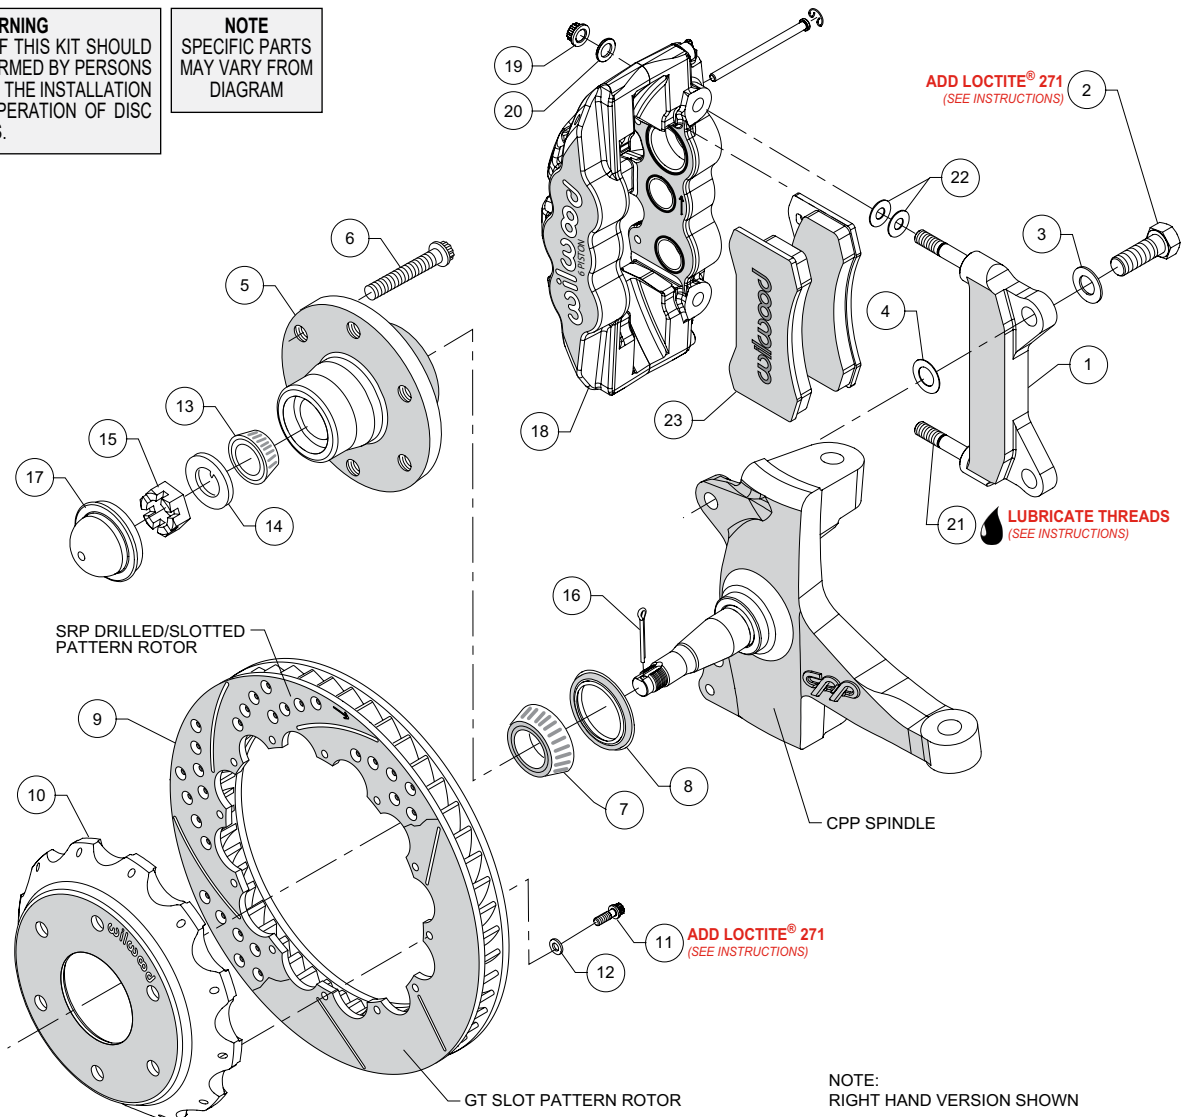
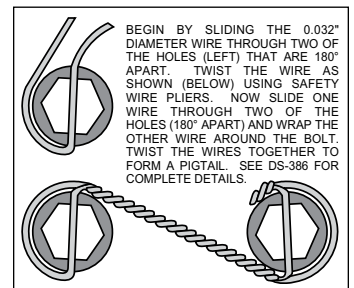

Figure 1. Typical Installation Configuration
Figure 3. Safety Wire Diagram
NOTE: Numbers in parenthesis refer to the parts list and Figure 1 on the preceding pages.
- The caliper mount bracket (1) should initially be installed with clean, dry threads on the mounting bolts. Orient the bracket, as shown in Figure 1, and Photo 1, and install using bolt (2) and washer (3). Initially place one .024" thick shim (4) on each bolt between the bracket and upright, Figure 1. Temporarily tighten the mounting bolts. **NOTE:** *The bracket must fit squarely against the mount bosses on the upright.* Inspect for interference from casting irregularities, machining ridges, burrs, etc. Later, after the caliper alignment has been checked, the mount bolts will be secured using red *Loctite*® 271.
- Install wheel studs (6) into the hub (5), Photo 2. Torque to 77 ft-lb.
- Pack the large inner bearing cone (7) with high temperature disc brake bearing grease (available from your local auto parts store) and install into the backside of the hub (5), Photo 3.
- Install the grease seal (8) by pressing into the backside of the hub (5), flush with the end of the hub, Photo 4.
- Orient the rotor (9) and the hat (10) as shown in Figure 1 and Photo 5. Attach rotor to hat using bolts (11) and washers (12). Apply red *Loctite*® 271 to the bolt threads and torque to 155 **in-lb** using a criss-cross pattern. For an added measure of security, the bolts may be safety wired using standard 0.032 inch diameter stainless steel safety wire as shown in Figure 3. Refer to Wilwood's data sheet DS-386 (available at www.wilwood.com/Pdf/DataSheets/ds386.pdf) for complete safety wire installation instructions.
- Pack the small outer bearing cone (13) with high temperature disc brake bearing grease and install into hub (5). Slide the hub assembly onto the spindle. Secure using spindle washer (14) and spindle nut (15), Photo 6. Adjust bearings per OEM specifications. Install a new cotter pin (16).
- Press the dust cap (17) into the hub (5). **NOTE:** *Do not hammer center of cap. Install using outer flange only.*
•Slide the hat/rotor assembly (10/9) onto the hub (5), Photo 7. **NOTE:** The hat must fit flush against the hub face or excessive rotor run out may result. Install three lug nuts (finger tight) to keep the hat/rotor assembly in place while continuing with the installation.
•**NOTE:** This kit contains distinct right and left hand calipers that must be mounted in a specific direction, as described below. Lubricate the caliper mounting studs (21) with lightweight oil. Initially place two .030" thick shims (22) on each stud as shown in Figure 1 and Photo 8. Mount the caliper (18) onto the bracket (1) using lock nuts (19) and washers (20), Figure 1. Ensure that the caliper is mounted so that the largest pistons are at the rotor exit end of the caliper, in relation to the direction of rotor rotation. Temporarily tighten the lock nuts and view the rotor through the top opening of the caliper. The rotor should be centered in the caliper, Photo 9. If not, adjust by adding or subtracting shims (4) between the bracket and the upright. Always use the same amount of shims on each of the two mounting bolts. Once the caliper alignment is correct, remove the bracket mounting bolts (2) one at a time, apply red *Loctite*® 271 to the threads, and torque to 140 ft-lbs.
•Remove the two pad retaining pins from the caliper (18) by carefully popping out the pin retaining clips and sliding out the pins. Insert the brake pads (23) into the caliper from the bottom, Figure 1 and Photo 10. With the friction material facing the rotor, secure the brake pads in place with the pad retaining pins and clips, Photo 11. Reinstall the caliper onto the caliper mounting bracket and temporarily tighten the lock nuts. Check that the top of the brake pad is flush with the outside diameter of the rotor, Photo 12. If not, adjust by adding or subtracting shims (22) between the caliper and the bracket. After the caliper pad height is set, torque the caliper lock nuts (19) to 47 ft-lb.